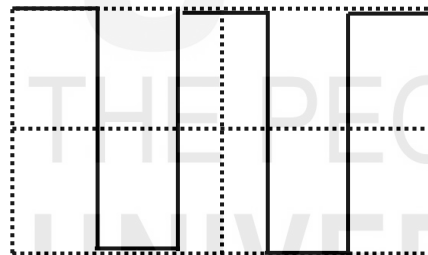

Fig. 15.12: Signal trace on a CRO screen.
4. Determine the peak-to-peak amplitude and frequency of the signal shown in Fig. 15.12. The screen width is 10 cm and height is 8 cm. The voltage sensitivity is  $2 \text{ V}/\text{cm}$  and time base is  $2 \text{ ms}/\text{cm}$ .